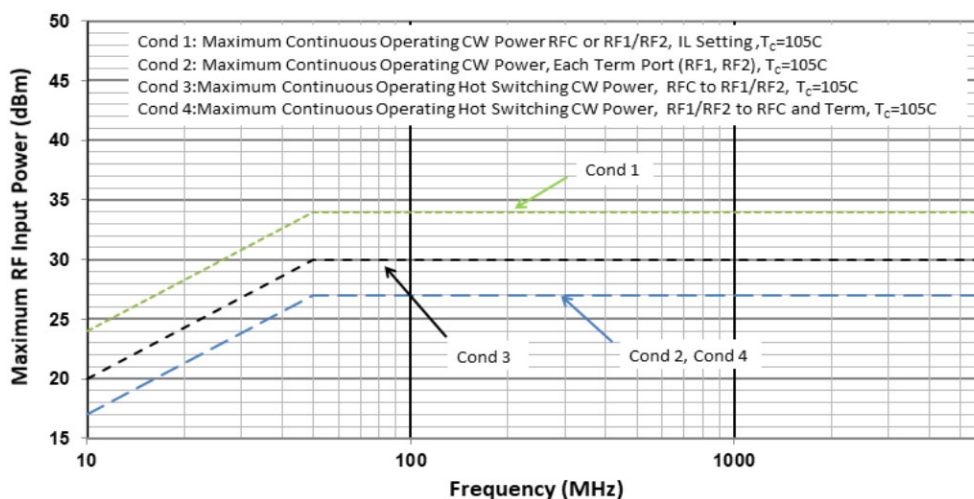

Figure 3. Maximum RF Input Operating Power vs. Frequency
1. Levels based on:  $V_{DD} = 3.1\text{V to } 5.25\text{V}$ ,  $250\text{MHz} \leq F_{RF} \leq 10\text{GHz}$ ,  $Z_S = Z_L = 50\Omega$ . See Figure 3 for power handling derating vs. RF frequency.